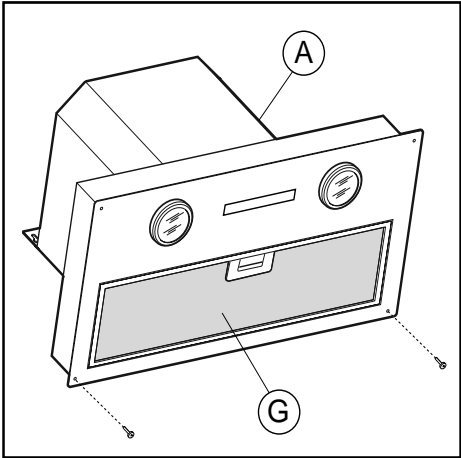
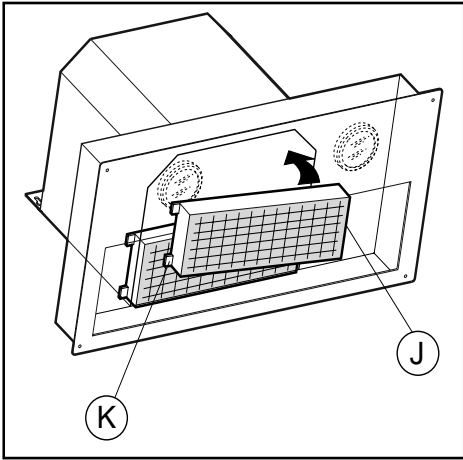
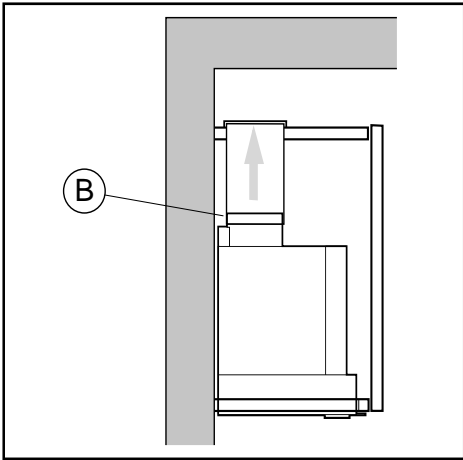

Fig.2
Fig.4
Fig.6
To transform the exhausting version to a filter version rangehood, active carbon filters are required and you should ask for them from your local supplier. The active carbon filters purify the air that is recycled within the environment. The filters are not washable or regenerative and must be replaced at least every four (4) months. The saturation of the active carbon depends on the frequent use of the rangehood, from the type of food cooked and the frequency of cleaning the grease. The rectangular filters must be affixed to the exhausting area inside the rangehood. Fit the pivots (K) in the appropriate slots (Fig 4) then, using the appropriate handles, and with a turning movement towards the top slot in the pivots (J) which are located next to the handle. To do this operation remove the grill G (Fig 2). The air is put back into the atmosphere via the connection tube passing through the cabinet to the linking ring B (Fig 6).